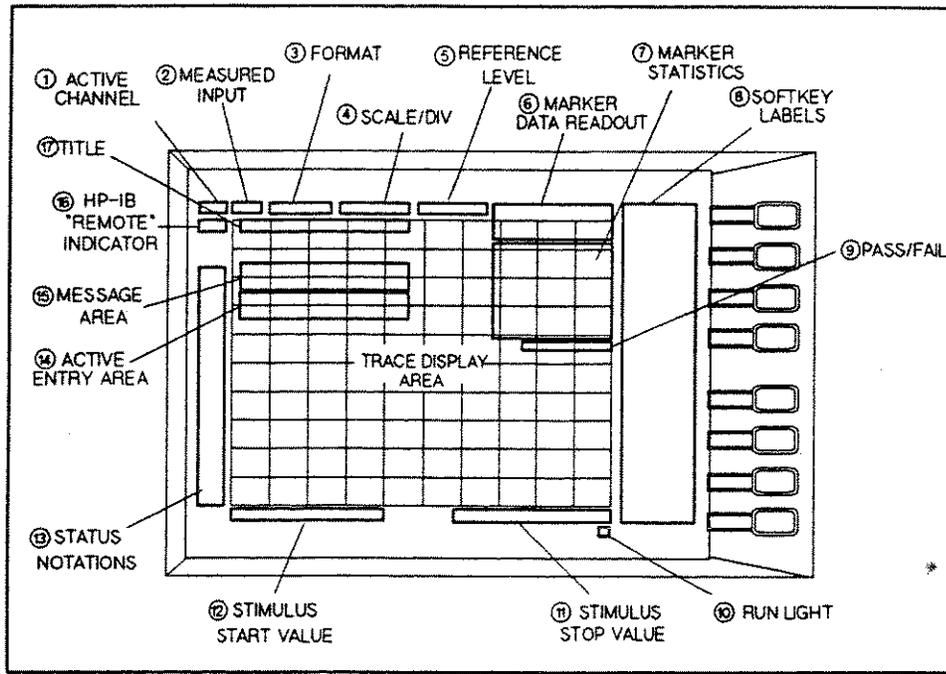

Figure 5-2. CRT Display (Single Channel, Cartesian Format)
2. *CRT display*. This is used for display of data traces, measurement annotation, softkey labels, and other information. The display is divided into specific information areas, illustrated in Figure 5-2.
The CRT displays the grid on which the measurement data is plotted, the currently selected measurement traces, and other information describing the measurement. Figure 5-2 illustrates the locations of the different CRT information labels, described below.
In addition to the full-screen display shown in Figure 5-2, a split display is available, as described under "**DISPLAY** Key" in Chapter 9. In this case, information labels are provided for each half of the display.